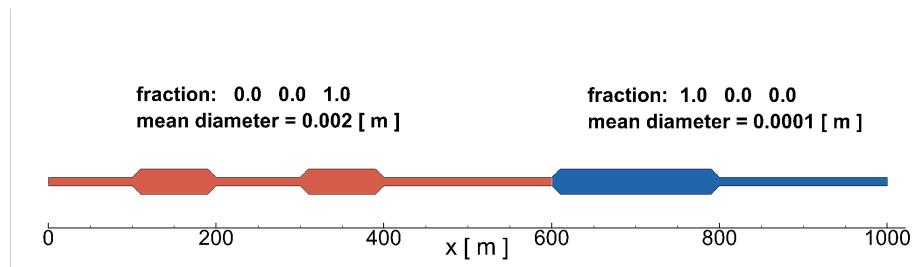

Figure 1.2: Initial mean diameter in the active layer due to the distribution of the grain classes
This dredging field is located between meter 100.5 and meter 300.5 of a flume. The area of the field is $200 \times 5 = 1000 \text{ m}^2$. In this part of the flume only coarse material ($d = 2 \text{ mm}$) is present (fig. 1.2). The date when the simulation starts is set in the GAIA steering file gai_nestor1.cas through the keywords:
- The grain composition (fig. 1.2) in the left part of the flume consists completely of the grain class 1 ($d = 0.1 \text{ mm}$). The right part consists completely of the grain class 3 ($d = 2.0 \text{ mm}$).